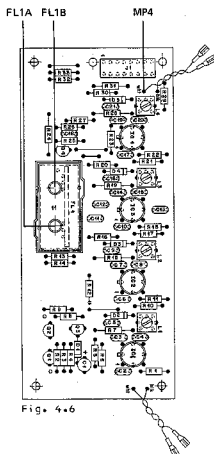

Fig. 4.6
- Switch tuner on and connect frequency counter to test point MP4 (1.726.740, Fig. 4.6).
- Feed 98.0 MHz, approx. 2 mV EMF from the standard-signal generator into the antenna input and press station selector key 3.
- Adjust voltages on digital voltmeter for 97.925 MHz (station key 12) and 98.075 MHz (station key 16) with FL1 B (primary circuit) to a balanced deviation (maximum deviation 50 mV).